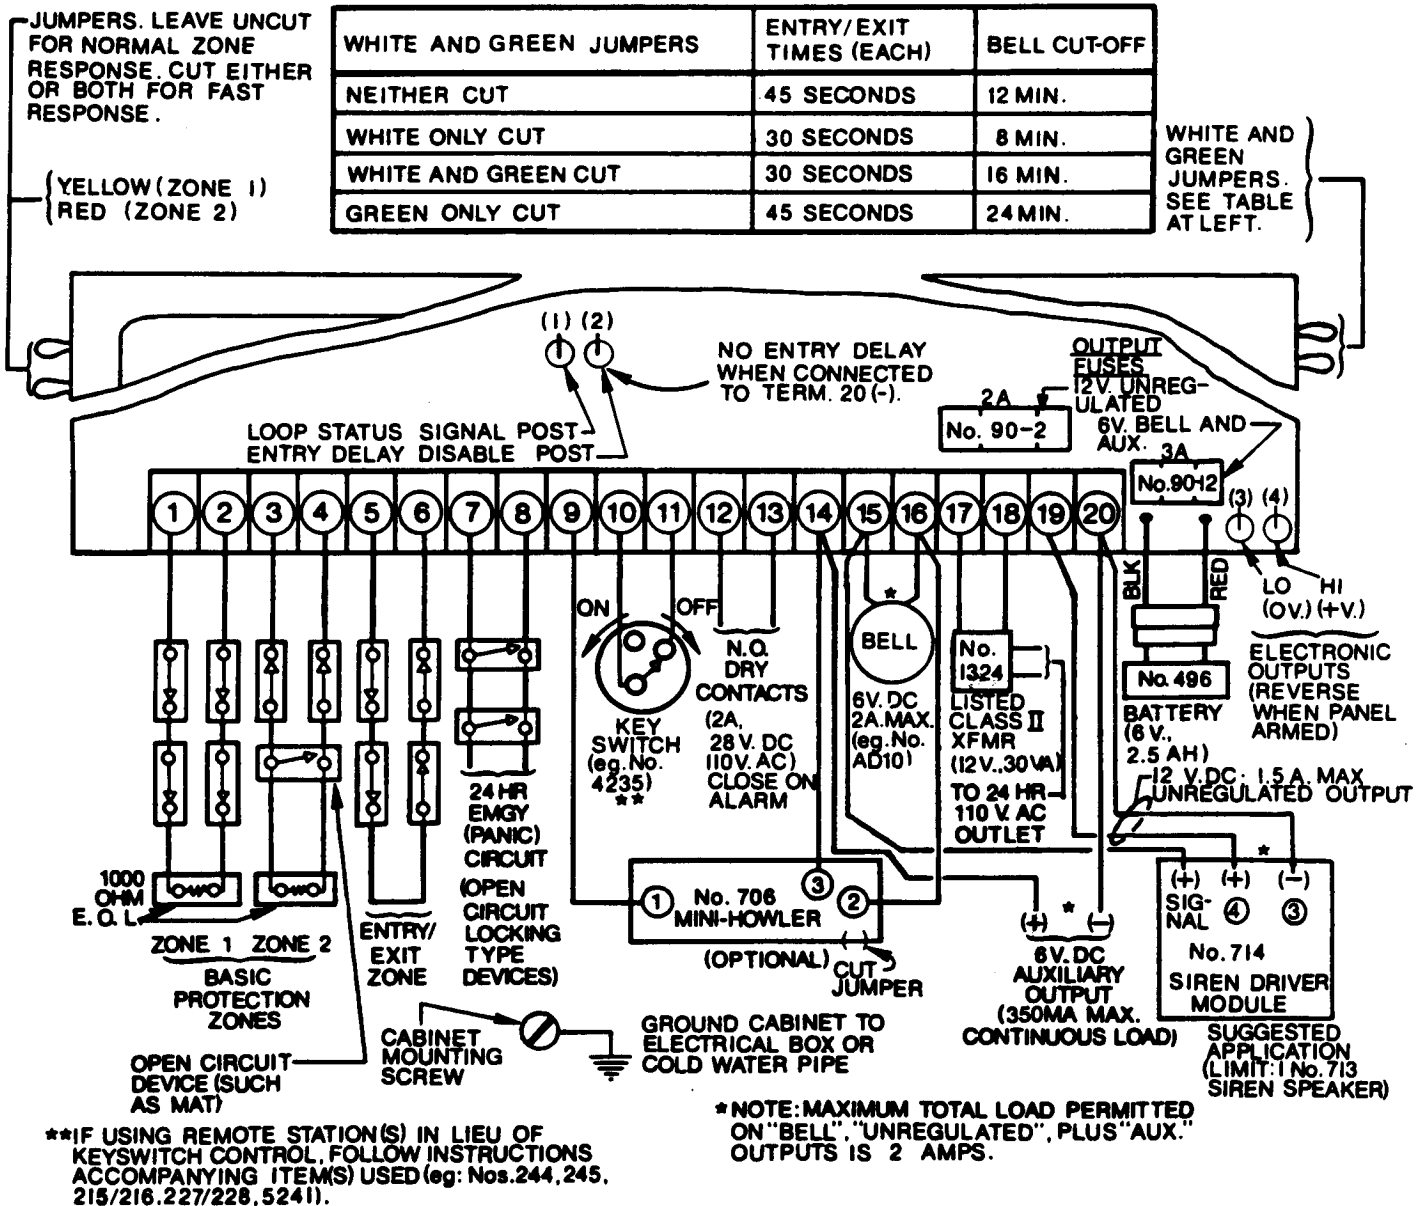

FIGURE 1: Field Connections
See Figure 1.
This zone provides entry and exit times of 45 seconds each (30 seconds if the WHITE jumper is cut per Fig. 1).
- 9,14(+),16(-)      No. 706 Mini-Howler (Optional): Connect as shown in Fig. 1.